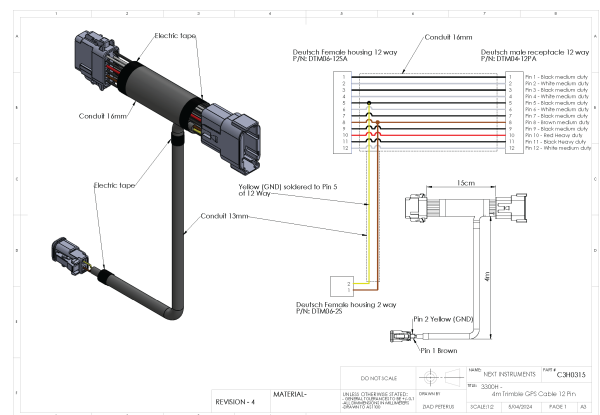

Figure. 2.22 Agco Display
To change the GPS RX baud rate of the Spectrometer, use the **Configurations Settings** window (enables the Spectrometer baud rate to be changed) as shown in figure 2.22. *Note the **GPS ON** tick box is required to be ticked to scan GPS messages.*
- 2) Press **Update GPS Baud Rate** button to view the Configuration Settings window and access the GPS baud rate parameter as shown in figure 2.22.